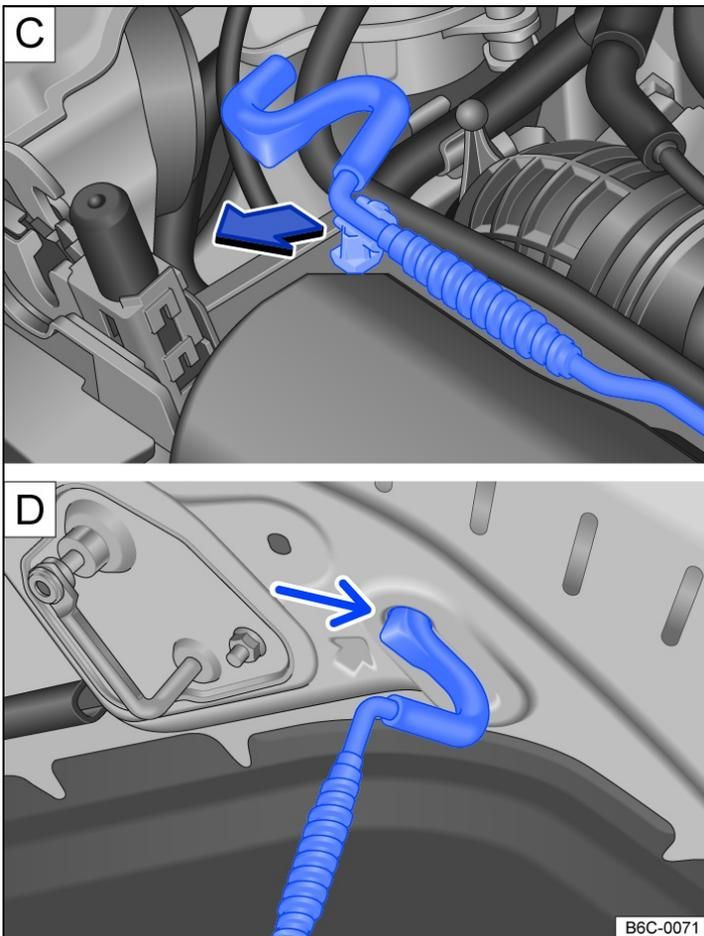

Fig. 2 **C** In the engine compartment: bonnet stay in the holder. **D** On the bonnet: recess for the bonnet stay (illustration).
- Take the bonnet stay out of the holder in the direction of the arrow → Fig. 2 C and insert in the opening → Fig. 2 D.
- Unhook the bonnet stay from the opening → Fig. 2 D and place in the holder → Fig. 2 C.